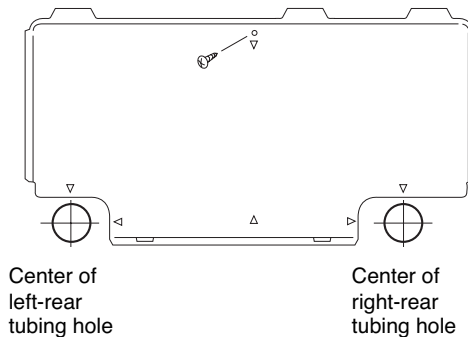

Fig. 3-21
- (1) Remove the rear panel from the indoor unit and place it on the wall at the location selected. Make sure the unit is horizontal using a carpenter's level or tape measure to measure down from the ceiling.
- (2) Determine which side of the unit you should make the hole. (Fig. 3-21)
- (3) Before making a hole, check carefully that no studs or pipes are directly run behind the spot to be cut.